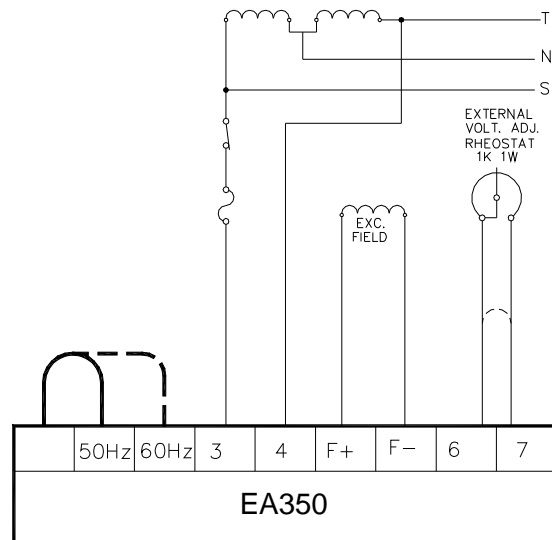

Figure 5 1Ø 220VAC Diagram
- See Figure 5~6 for typical connection diagram
See Figure 5~6.
When using a remote voltage adjust rheostat, remove the jumper wire across terminals 6 and 7 and install a 2000 ohm 1/2 watt (minimum) rheostat. This will give  $\pm 10\%$  voltage variation from the nominal. (For  $\pm 5\%$  voltage variation use a 1000 ohm 1/2 watt rheostat). See Figure 5~6.